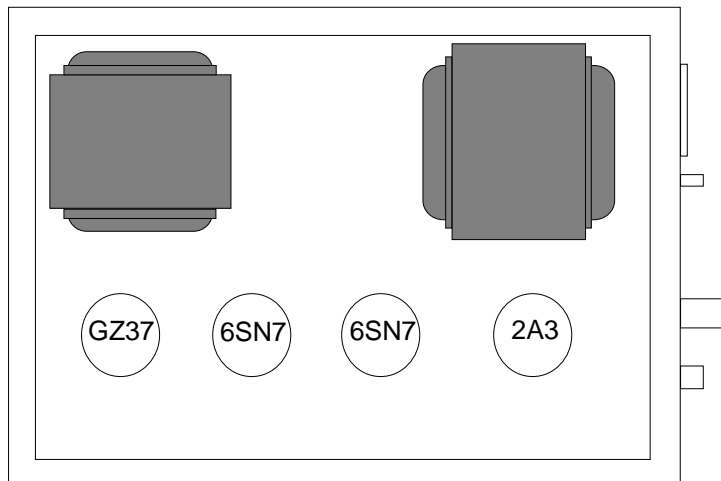

Figure 7.
11. Install the tubes in the locations shown in figure 7 below.